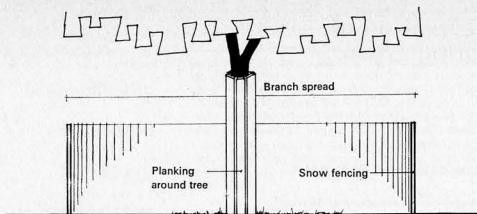

Fig. 3
- 1 Wrapping tree trunks with heavy planks as Figure 3 \$5.00–10.00 per tree; approximately \$30.00–50.00 per tree.